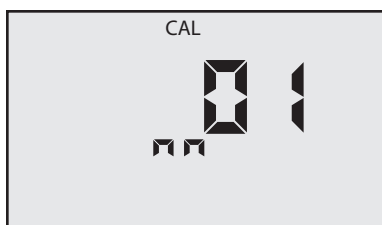

Figure 13
7. Press  to accept the change (new month), (see Figure 13).